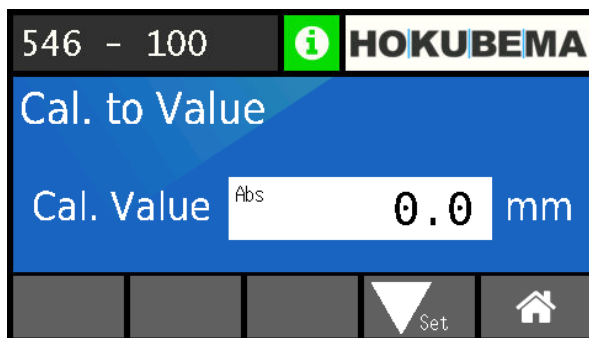

Figure 55: Calibrate table height
- The calibration screen appears (see ⇒ Figure 55)